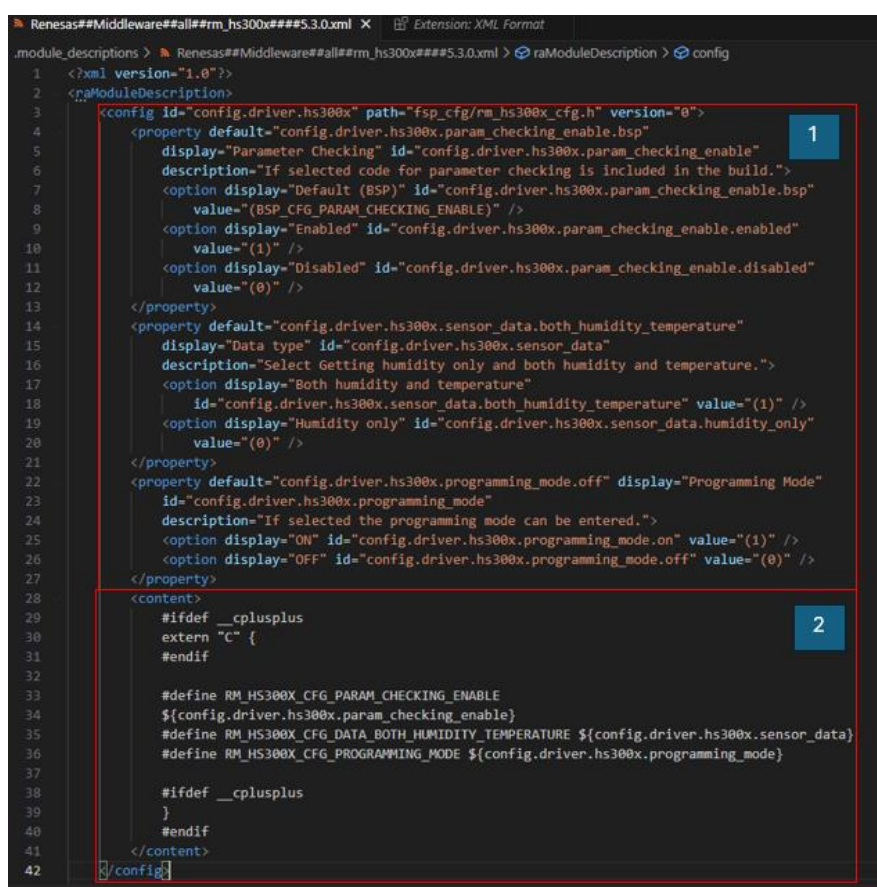
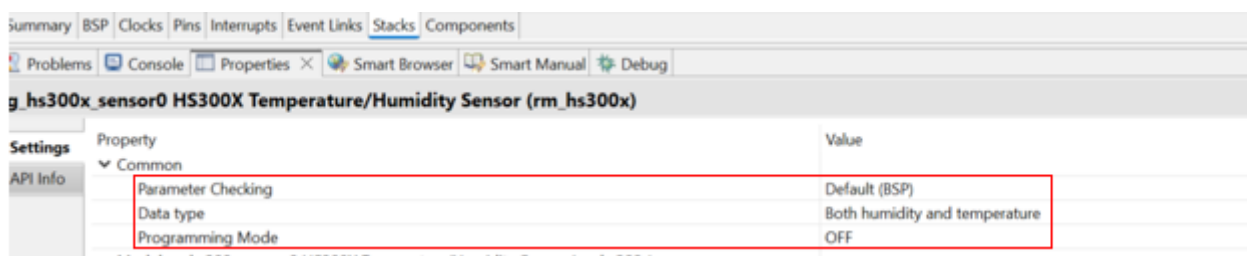
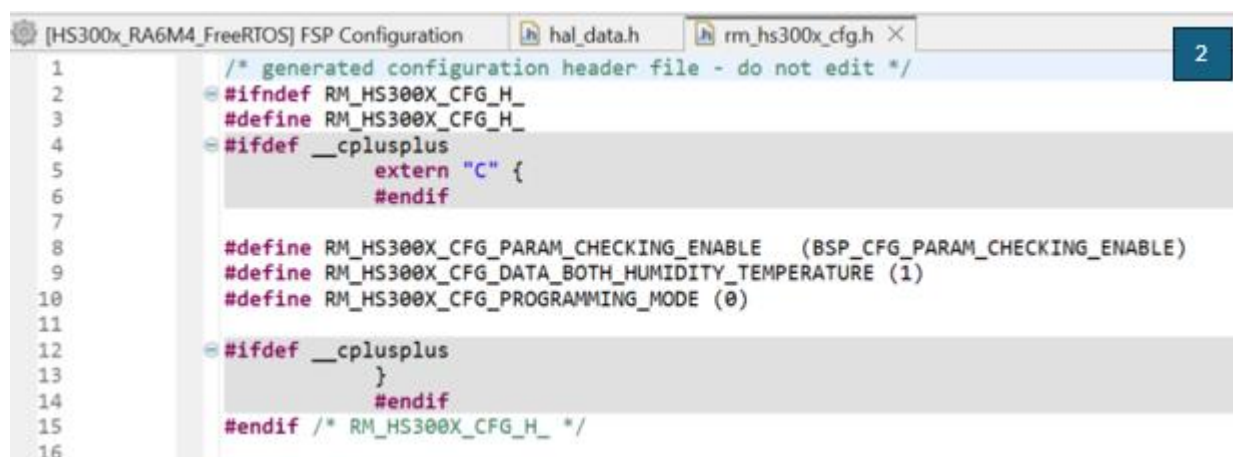

Figure 28. (.xml) Module Configuration
Figure 29. e² Studio Module Configuration
Figure 30. e² Studio Generated Configuration File
Figure 28 and Figure 29 show the user configuration code in the module description file and its corresponding output in e² studio.
For your module, change **rm_hs300x_cfg.h** to **your_module_name_cfg.h**. The contents of the **rm_hs300x_cfg.h** are contained inside the **<content>** elements shown in block 2 of Figure 28. This section will be further explained the Content Element section below.
The **<property>** elements create a configurable attribute that can be set in e² studio by the user. In the HS300x example, parameter checking, data type support, and programming mode are configured in block 1 of Figure 28. The display in e² studio is shown in Figure 29.
- Inside the **<property>** elements the **<option>** elements are placed. These indicate the different values that can be chosen for each property. Each option has a **display**, **id**, and **value** attribute. These are set similarly to the property attributes as shown in block 1 of Figure 28.
The **<content>** elements identify the code that will be written to the **your_module_name_cfg.h** file. The content section of the HS300x is shown in block 2 of Figure 28. Create a **#define** for each property you added. Use the property id name to assign the associated value to the **#define** you create. Figure 30 shows the resulting **fsp_cfg** file generated for the HS300x.